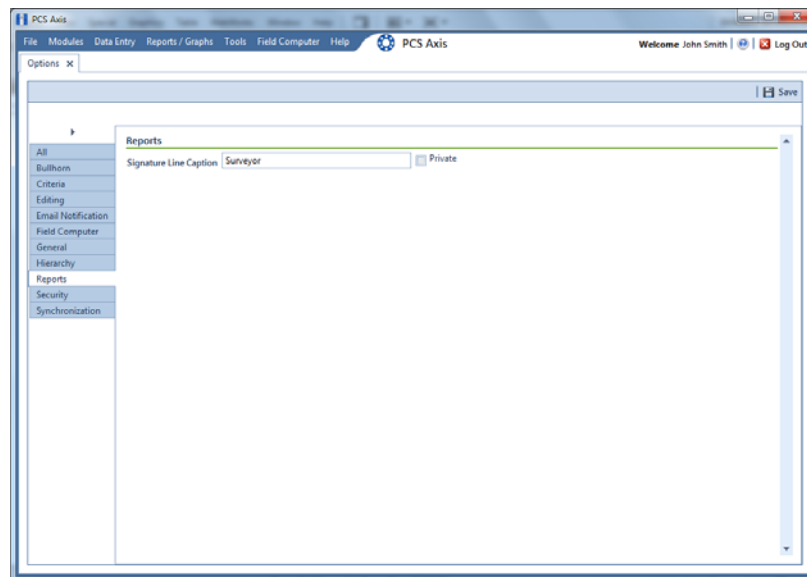

Figure 2-12. Reports
- 2 Click the **Reports** tab to open the *Reports* option page (Figure 2-12, page 38).